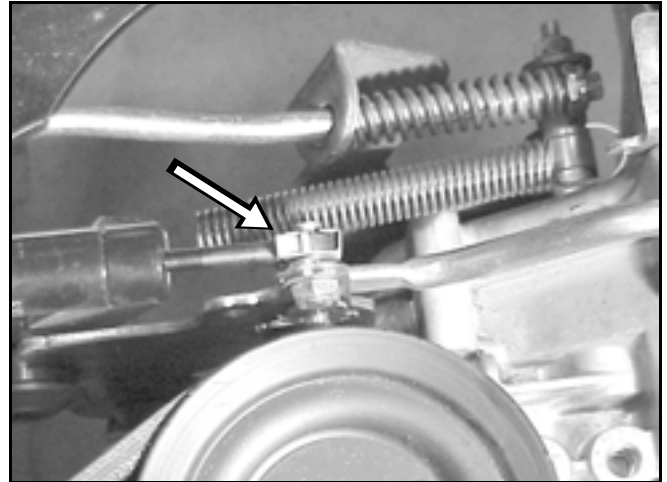

Figure 134
5. Connect the damper cylinder to the control linkage (Figure 134).